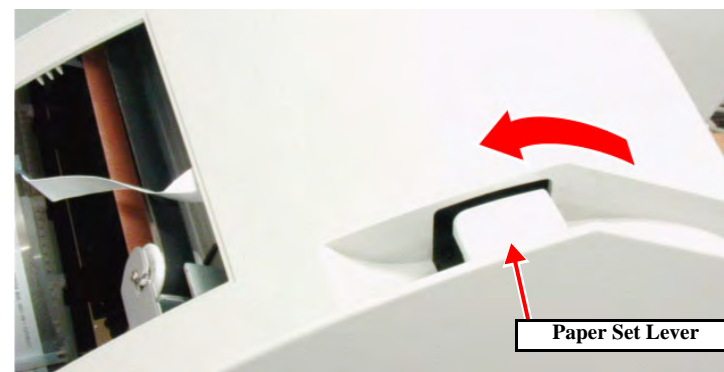

Figure 4-10. R Side Cover Removal 5/5
12. Bring down the Paper Set Lever to the front. (See Figure 4-10)